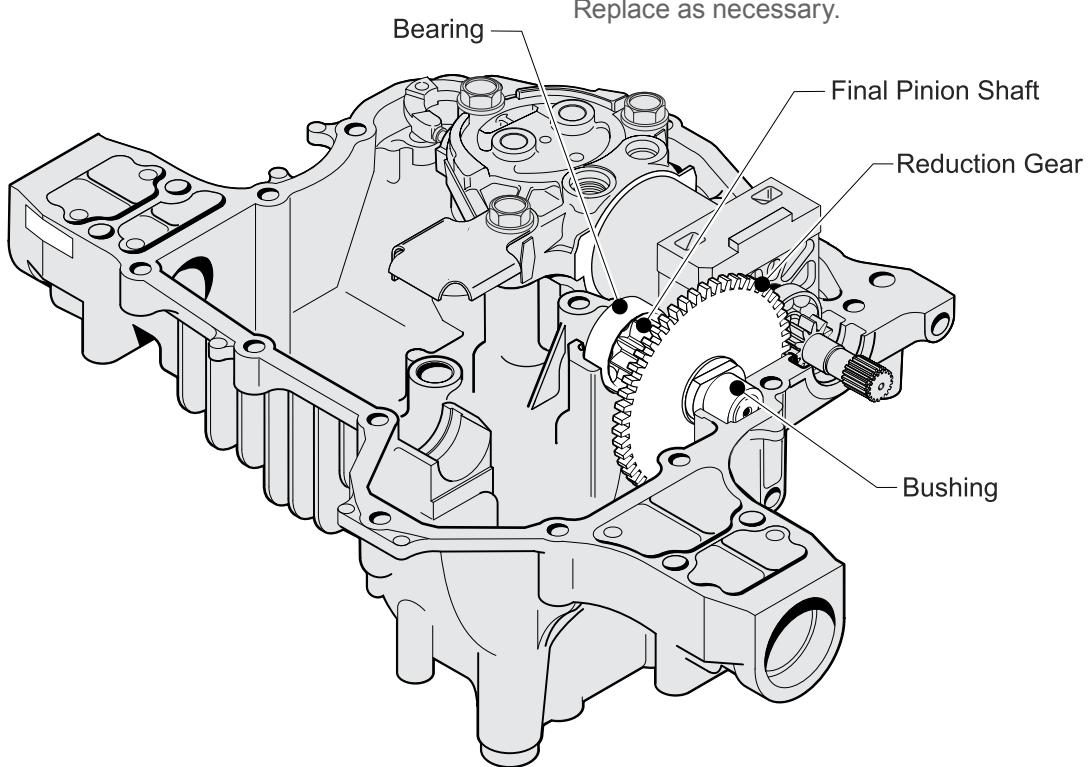

Fig. 10, Final Pinion Assembly Removal
1. Remove the Final Pinion Assembly from the Upper Case from its seated position. Separate the assembly, Bearing, Bushing, Washer, Final Pinon Shaft, and Reduction. (Fig. 10, 11)